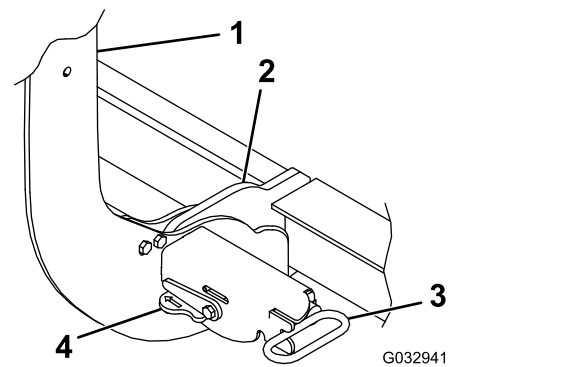

Figure 28
3. Turn the levers on the couplers to the ON position (Figure 28).
6. Ensure that both coupler spring pins have fully engaged the coupler (Figure 28).